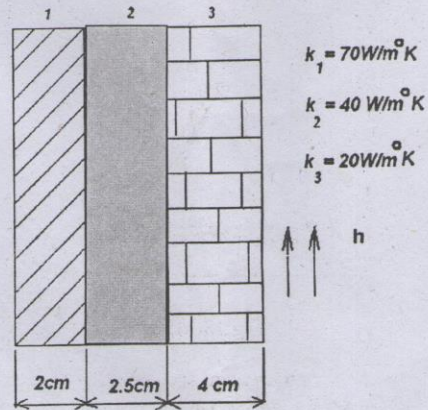

Fig.15(a)
15. (a) A composite wall consists of three materials as shown in Fig.15(a). The inside wall temperature is  $200^{\circ}\text{C}$  and the outside air temperature is  $50^{\circ}\text{C}$  with a convection coefficient of  $10 \text{ W/cm}^2 \text{ }^{\circ}\text{C}$ . Determine the temperature along the composite wall.